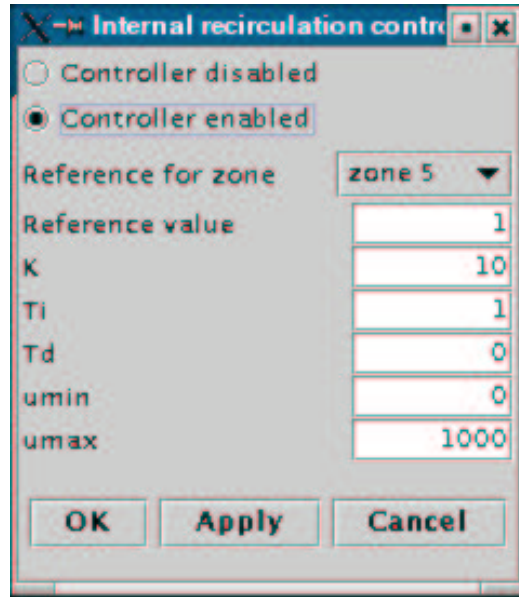

Figure 6: The Internal recirculation controller dialog
28. The internal recirculation controller controls the  $NO_3^-$  concentration in the last anoxic zone by changing the internal recirculation flow rate. The controller is a PID controller. By selecting *Internal recirculation controller* in the *Controllers* menu, the dialog shown in Figure 6 is displayed. Here it is possible to set the parameters of the controller.